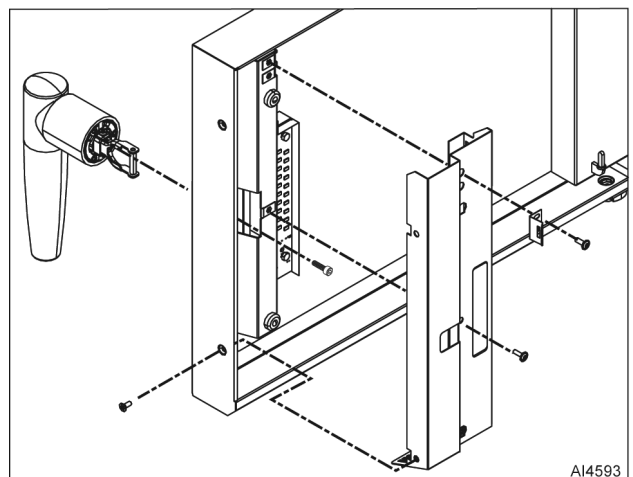

Fig. 39
3. Remove screws, retaining clip, and inner panel (Fig. 39).